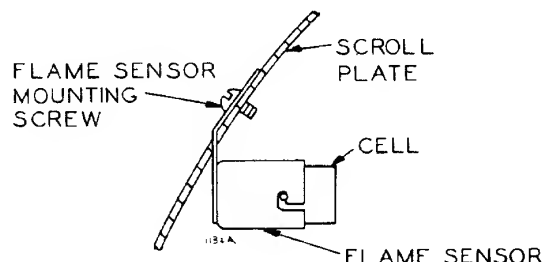

Fig. 5 - Old Style Flame Sensor.
To replace any of the "Old Style" Flame Sensors shown in Fig. 5, 6, or 7, shut off electric power and disconnect Flame Sensor leads from primary control. Loosen screws holding ignition transformer and swing away transformer. Then replace Flame Sensor according to instructions A, B, or C, which follow:
A. Scroll Plate-Mounted Flame Sensor (Fig. 5)